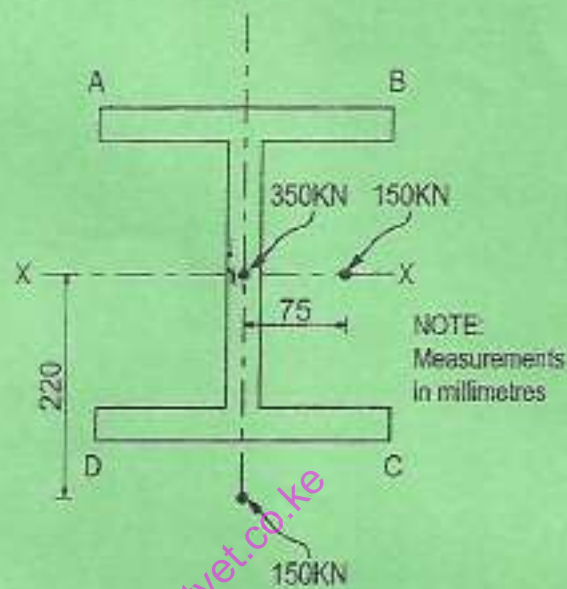

FIGURE 7
- (b) A stanchion carries loads as shown in figure 7. Calculate the stresses at points A, B, C, D using the following properties of the section.